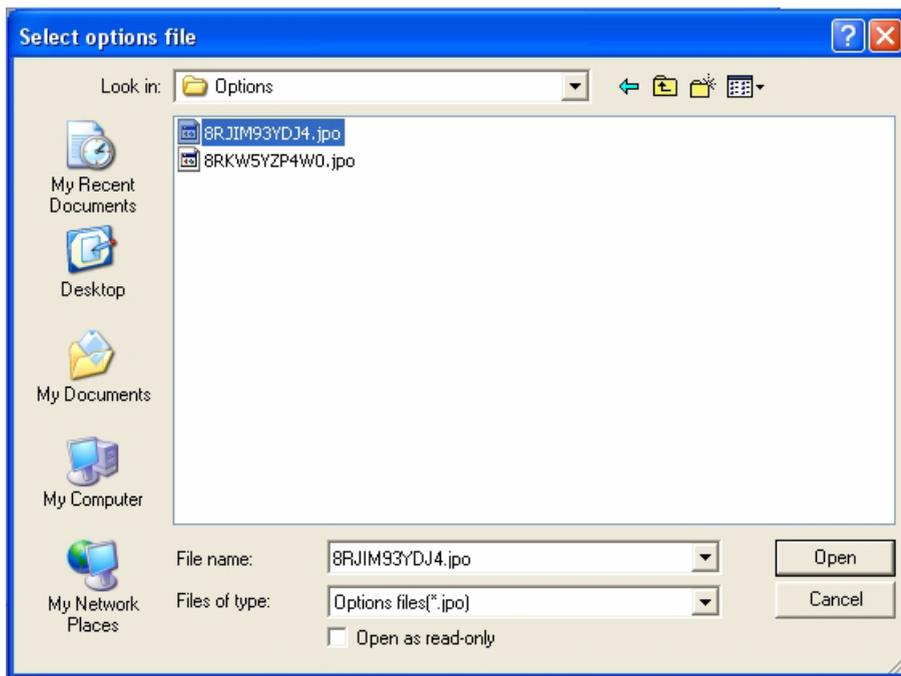

Figure 5-9. Load OAF
3. Navigate to the location of the new Option Authorization File. OAFs have .jpo extension and are unique to each receiver (Figure 5-9).